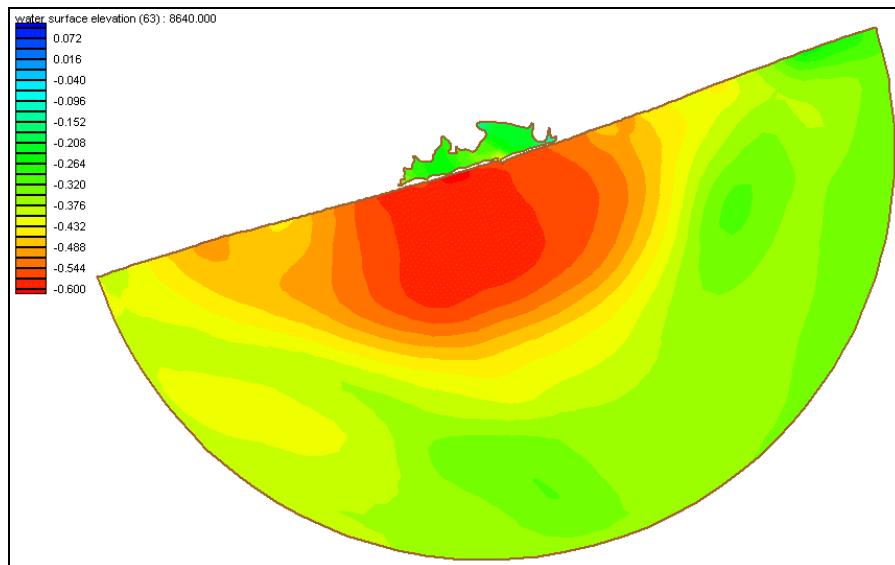

Figure 17-6 ADCIRC output from the "fort.63" file.
9. Click *OK* time to exit the dialog box, and *SMS* will redraw the screen similar to Figure 17-6. Note (It will look about the same for the *Time step* 480.)